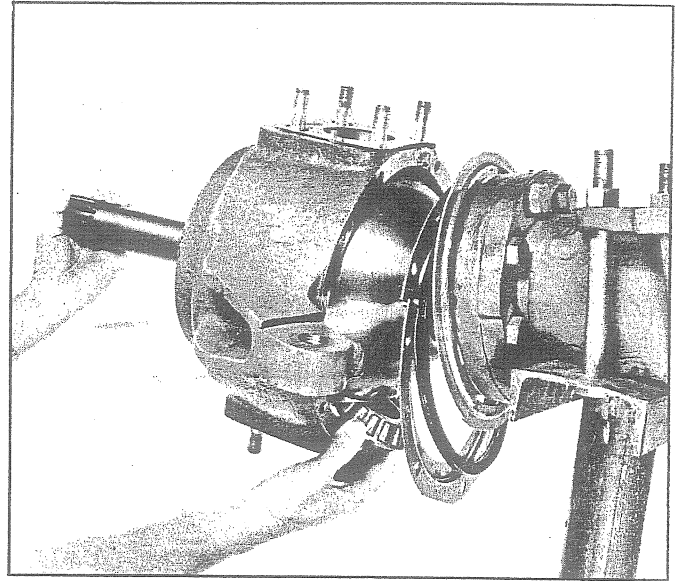

Fig. 13 - Removing Lower Trunnion Bearing
16. Remove lower trunnion bearing as shown in Fig. 13.